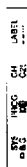

Fig. 5
- 5 Select the second element of the double-digit number with $\Delta+$ or $\nabla-$ or the number buttons (e.g., for "04," select "4" here) (See Fig. 5) and press OK.